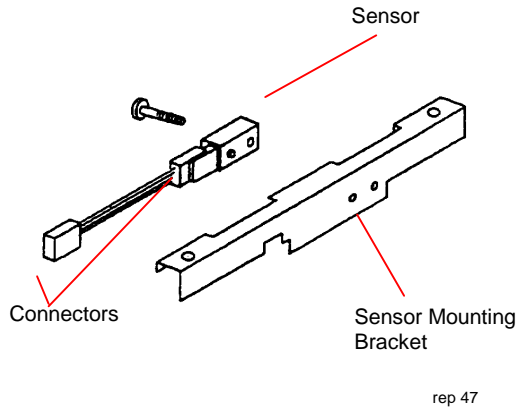

Figure 2. Removing the Sensor
4. (Figure 2): Remove the two screws and Sensor Mounting Bracket.